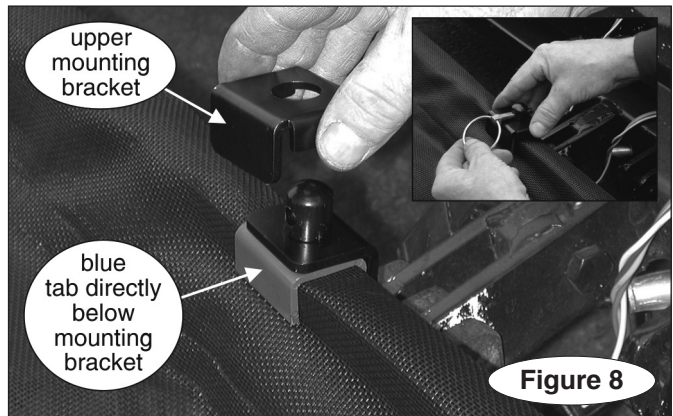

Figure 8
7. Position the Tow Defender so that the center cut-out (Figure 2) at the edge of the Tow Defender is centered to the vehicle (Figure 7). Then, position the blue tabs directly below the lower mounting brackets (inset 3, Figure 7 and Figure 8).
8. Lower the upper mounting brackets (Figure 8) over the pins in the lower mounting brackets, and secure them in place with the provided linch pins (inset, Figure 8).